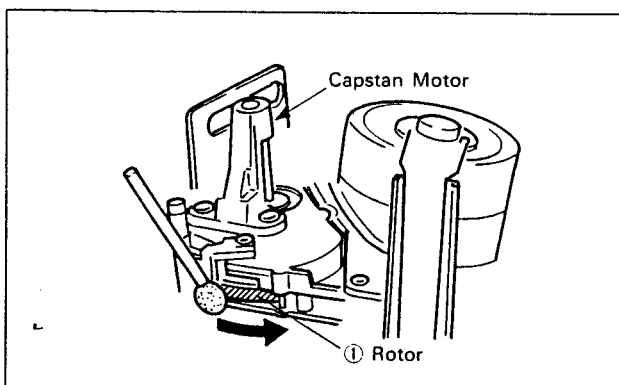

Fig. 2-3.
- 4) Using a cotton tipped applicator, rotate the rotor of capstan motor ① in the direction of the arrow to wind the tape loop around a cassette reel. (See Fig. 2-3.)